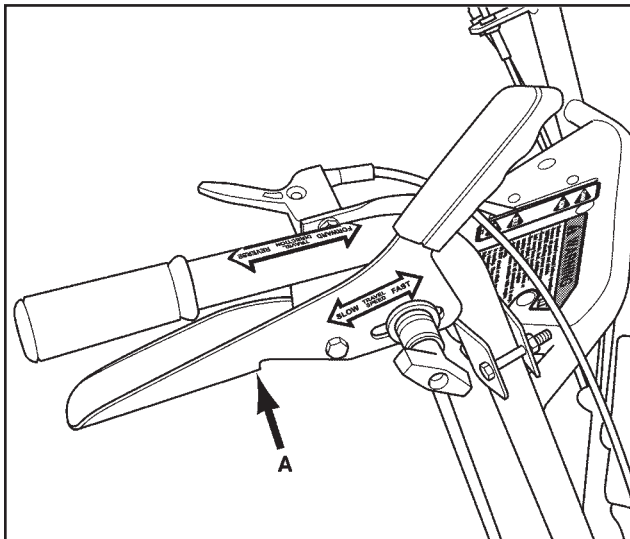

FIGURE 15 Stopping Movement
1. RELEASE the HYDROSTATIC CONTROL LEVER, A. The lever will automatically go the neutral position as shown (See Figure 15).